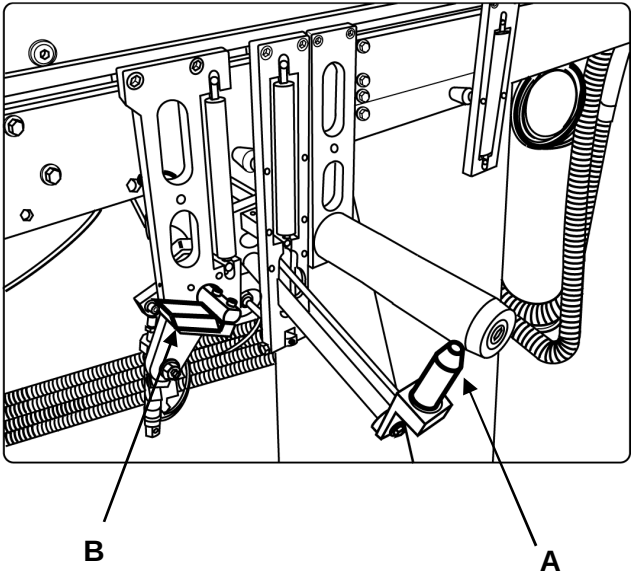
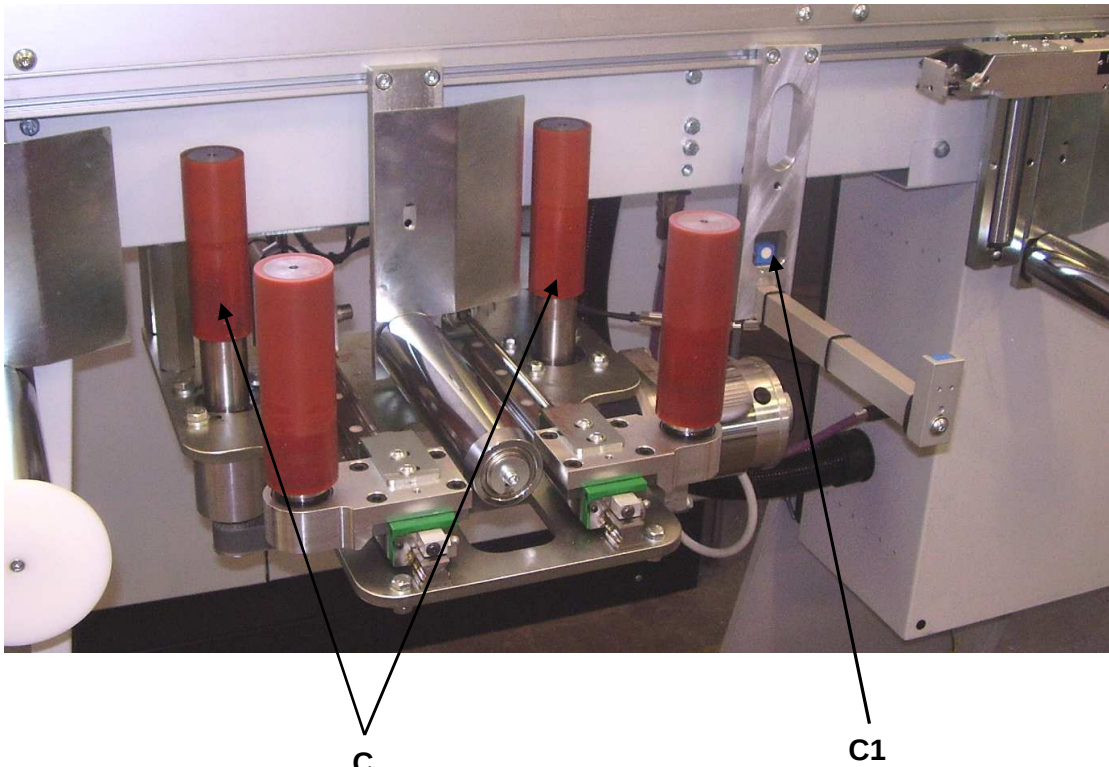

Fig. 06-01
Fig. 06-02
2. When the piece reaches the end of the motor driven conveyor, it is aligned on the bar pusher roller table (if required the profile can be first rotated using the tilting system if enabled by the program) and clamped by pins '**A**' - **Fig. 06-01** in order for the gripper to grasp it perfectly. The pivoting motion of the pins is activated by the piece present detection photocell.
3. The purpose of the retractable stop '**B**' - **Fig. 06-01** is to hold the bar still during the gripper pick-up phase and then retract with some of the pins '**A**' when the operation is complete. Other pins remain on the bar to guide its forward movement. Once the bar has been transferred to the multispindle, it is clamped by the vice units located on the Right and Left of the electrospindles so that the required machining operations can take place.
4. On exiting the multispindle the bar is taken to the alignment position on the bar pusher roller table by means of the vertical motorised rollers '**C**' - **Fig. 06-02** and is then blocked by the pins '**A**' - **Fig. 06-01** so that it can be grasped perfectly by the gripper. Movement of the motorised rollers is activated by the piece presence detection photocell '**C1**' - **Fig. 06-02**.